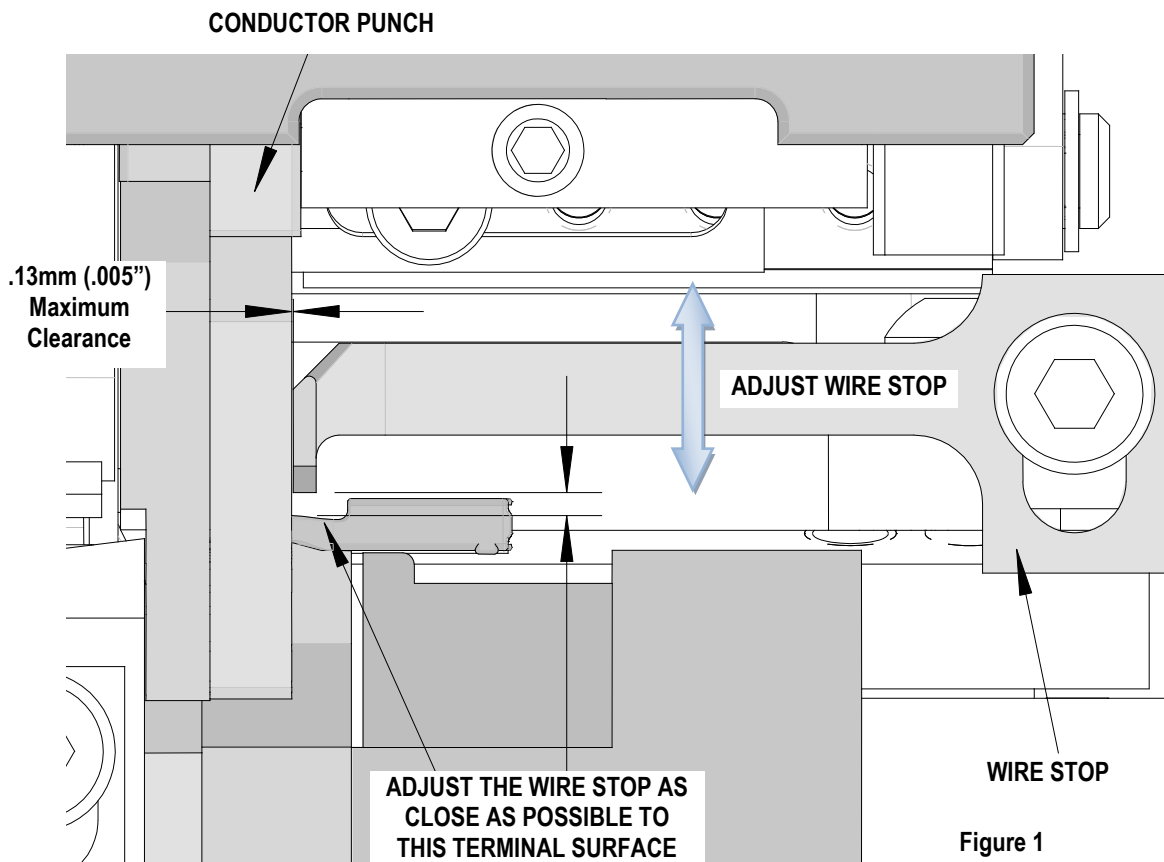

Figure 1
2. Adjust the wire stop blade down towards the terminal as close as possible to the terminal transitional surface. See Figure 1.